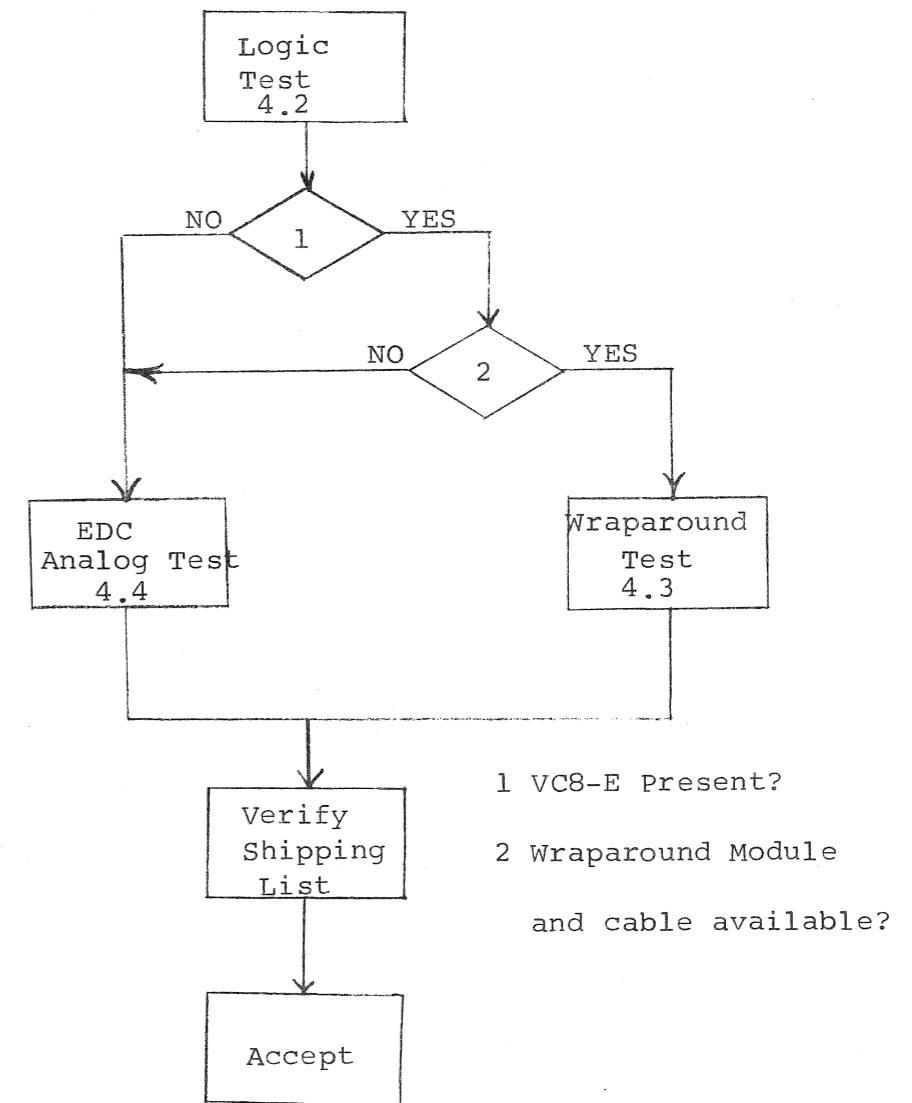

FIGURE 1 AD8-A ACCEPTANCE FLOW
4.1 AD8-A acceptance testing flow is shown in figure 1. Since the wraparound cable is special and a VC8-E may not be present at a user sight, test 4.3 is intended for in-house use only.